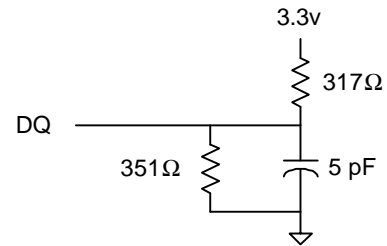

Fig. 2 OUTPUT LOAD EQUIVALENT
- Output loading is specified with  $C_L = 5pF$  as in Fig. 2. Transition is measured  $\pm 500mV$  from steady state voltage.